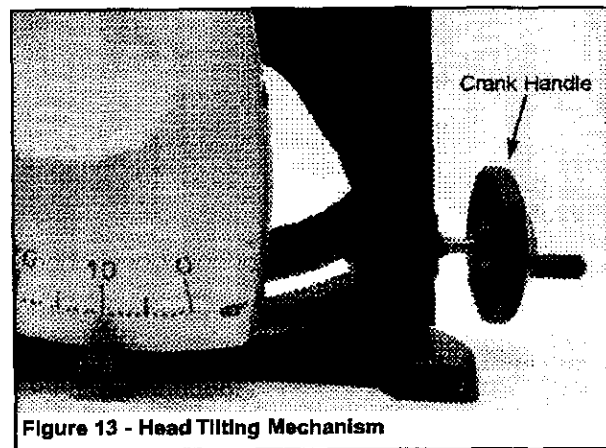

Figure 13 - Head Tilting Mechanism
- Tilt head to desired position by rotating crank handle (see Figure 13).